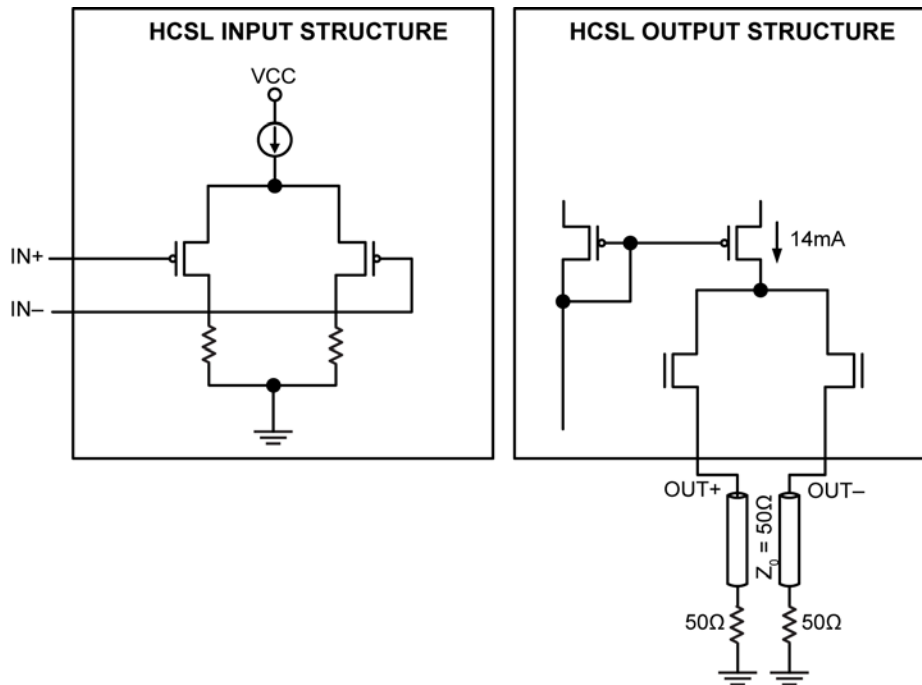

Figure 4. HCSL Input/Output Structure
The high-speed current-steering logic (HCSL) input requires the single-ended swing of 700mV on both input pins of IN+ and IN- with a common-mode voltage of approximately 350mV (see Figure 4).
A typical HCSL driver is a differential logic with open-source outputs, where each of the output pins switches between 0 and 14mA. When one output pin is low (0), the other is high (driving 14mA). The output pins of OUT+ and OUT- are typically connecting to differential transmission lines ($Z_0 = 100\Omega$) or a single-ended transmission line ($Z_0 = 50\Omega$), which requires an external termination resistor (50Ω to GND), resulting in a 700mV swing level for HCSL input structures (Figure 4).